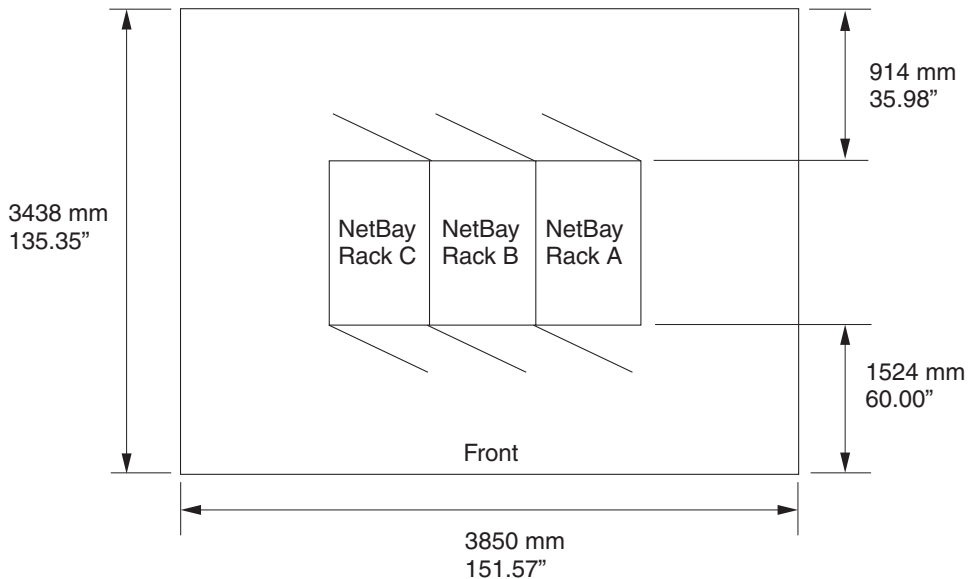

Figure 9. Operational clearances for NetBAY 42 Enterprise rack
Figure 9 on page 42 shows the required floor space for an IBM NetBAY rack. This diagram shows the space needed to allow enough clearance in the front and rear of the rack to be able to open the doors to access the equipment. Front clearance is needed to have access to the blade servers and the BladeCenter media tray. Rear clearance is needed to access power supplies, blowers, network cable connections,
- floor space that provides adequate access to the front and rear of the rack, and space on both sides of the rack or a row of racks for ventilation and walk through space. See Figure 9 on page 42.